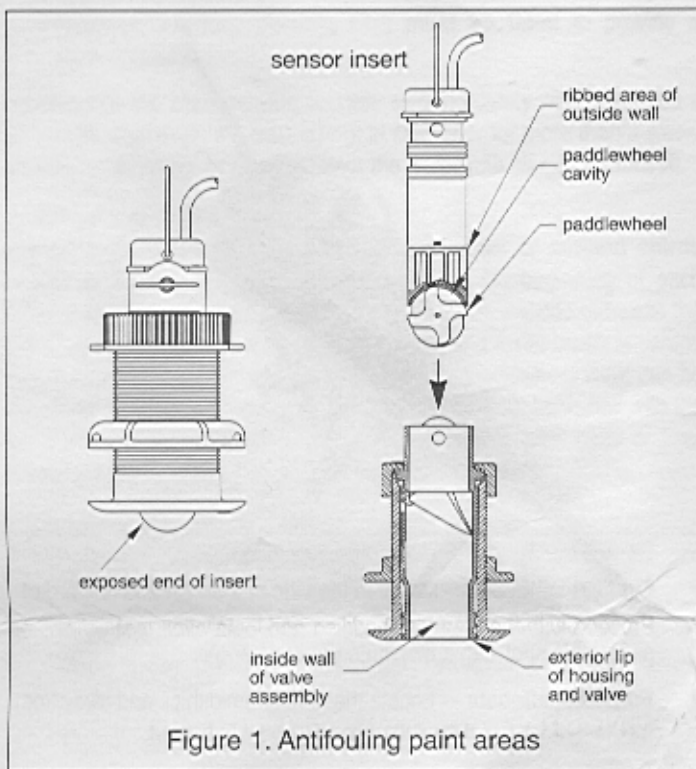
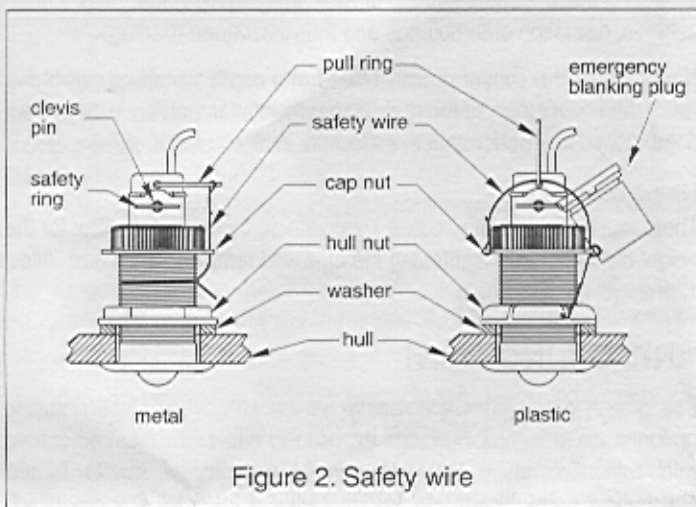

Figure 1. Antifouling paint areas
Figure 2. Safety wire
It is easiest to apply paint before installing the sensor, but allow time for it to dry. Paint the following surfaces (see **Figure 1**):
1. Remove one safety ring and the clevis pin (see Figure 2), then pull the sensor insert from the housing (see Figure 1). Next, remove the cap nut, hull nut (see Figure 2) and valve assembly (see Figure 3).
3. Slide on the washer used to distribute the force from the hull nut and create a flat surface to tighten against (see Figure 2). On aluminum hulls less than 5mm (0.2") thick, it is necessary to use a second washer. With a plastic sensor, the washer material must not swell and stress the housing. **Never** use a wood backing block with a plastic housing; use a fiberglass, plastic, brass or rubber washer.
4. Screw on the hull nut (see Figure 2). On a metal housing, tighten the hull nut with a wrench or pliers. On a plastic housing, always **hand tighten** the hull nut. **Do not over tighten**. Check to be sure the notch on the upper rim of the housing is aligned forward toward the bow.
7. Slide the clevis pin in place and attach the safety ring. Thread the short, large diameter, emergency blanking plug onto one of the safety rings (see Figure 2).
second time. Then lead the wire through the pull ring and the second eye in the cap nut. Twist the wire securely to the cap nut (see **Figure 2**).
On metal sensors, wrap one end of the wire tightly around the housing and twist it together with the long end. Lead the wire through one eye in the cap nut. Thread the wire through the eye a second time. Loop the wire through the pull ring and twist it securely to itself (see **Figure 2**).
For sensors exposed to salt water, reapply **water or mineral spirits based** antifouling paint every 6 months or at the beginning of each boating season (see **Figure 1**). Marine growth can impede or freeze the paddlewheel's rotation and must be removed. Use a stiff brush or scrape with a dull edged tool. If fouling is severe, the paddlewheel shaft can be removed by pushing it out using a spare shaft or a 4D finish nail with the point ground flat. Light wet sanding is permissible with #220 or finer grade wet/dry paper. Clean with detergent if necessary.
3. **Always** secure the blanking plug with the cap nut and safety wire (see **Figure 2**). Repair or replace the valve assembly.
3. **Always** secure the insert with the clevis pin, safety rings and safety wire (see **Figures 2**).